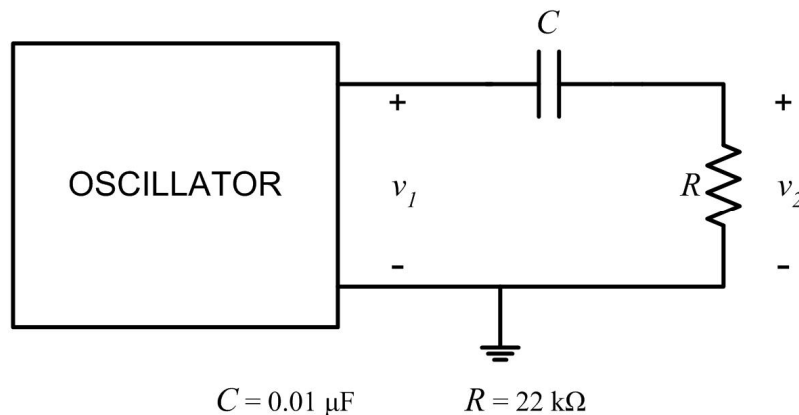

Figure 7. Circuit configuration for step 2.1.
4. (_/0.5) Carefully read the *Background* section above before coming to the lab. Sketch how you would construct the circuit given in Figure 7 on the prototyping board, including the placement of the resistor, the capacitor and the oscillator.
To obtain two sinusoids with a phase difference, connect the circuit shown in Figure 7 on your prototyping board. Verify that the nominal values of the resistor and the capacitor are correct using the guidelines in the *Background* section. Set the oscillator to a 2 V peak-to-peak sinusoidal signal of frequency 1 kHz.
Connect channel 1 of the oscilloscope to measure the voltage v_1 , as specified in Figure 7. Similarly, connect channel 2 of the oscilloscope to measure the voltage v_2 . Display both v_1 and v_2 on the oscilloscope screen simultaneously.
- 2.2** (Table _/3 & Conclusion _/1) The RC circuit in Figure 7 produces voltages v_1 and v_2 , which are out of phase: